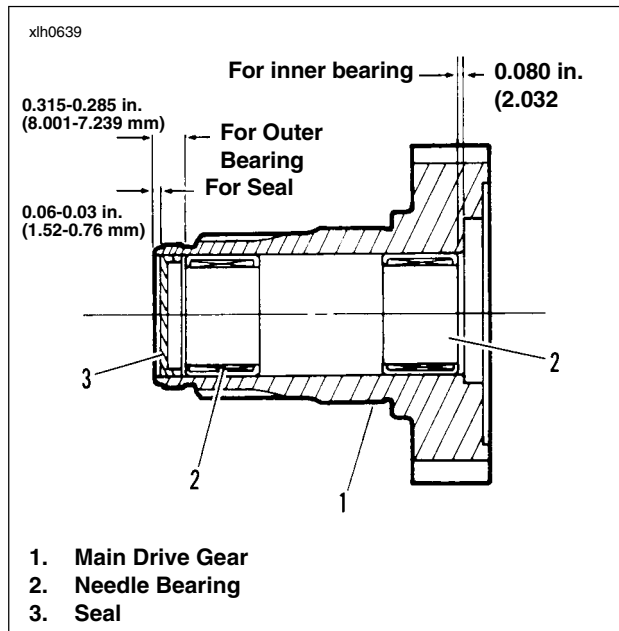
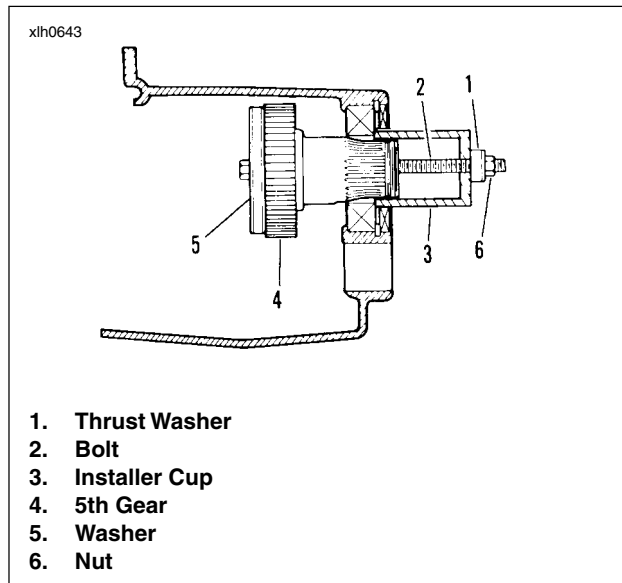

Figure 6-47. Main Drive Gear Assembly
Figure 6-51. Main Drive Gear Installation
2. See Figure 6-47. From inside case tap out seal (3) at end of mainshaft 5th gear (1). Discard seal (3).
- See Figure 6-51. Use MAIN DRIVE GEAR REMOVER AND INSTALLER (Part No. HD-35316-A) for assembly.
- Take bolt (2) and place washer (5) followed by main drive gear (4) over end of bolt.
- Insert threaded end of bolt (2) through installer cup (3) and thrust washer (1).
- Thread nut (6) onto end of bolt (2). Tighten nut (6) until shoulder on gear (4) bottoms against inner race of bearing.
- See Figure 6-47. Tap in **new** seal (3) at threaded end of 5th gear.